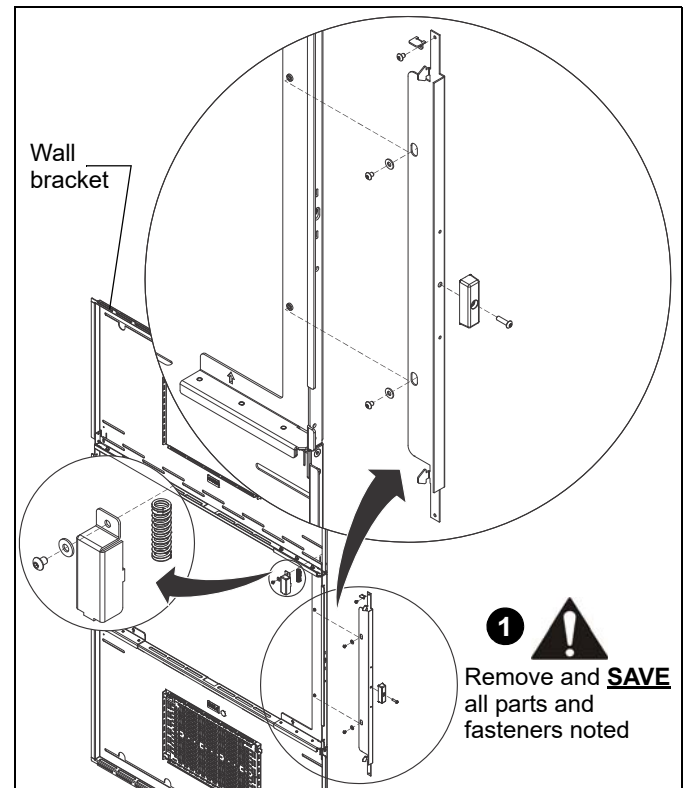

Figure 12
1. Remove **AND SAVE** the hardware on the latch (right) side of the wall bracket. (See Figure 12)